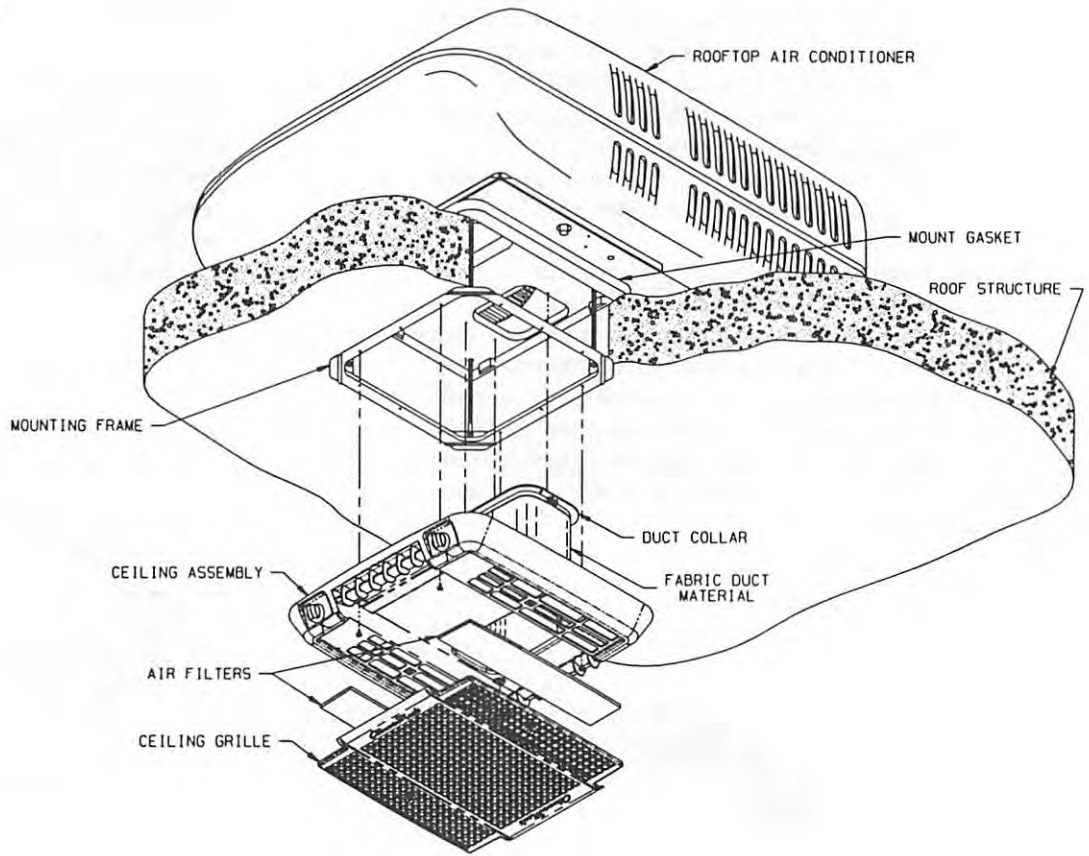

FIGURE 15
- I. Raise the ceiling assembly and secure to the mounting frame with 4 provided shoulder screw/spring assemblies. The front two screws should pass through the clearance holes in the metal control box shield (See Figure 15).